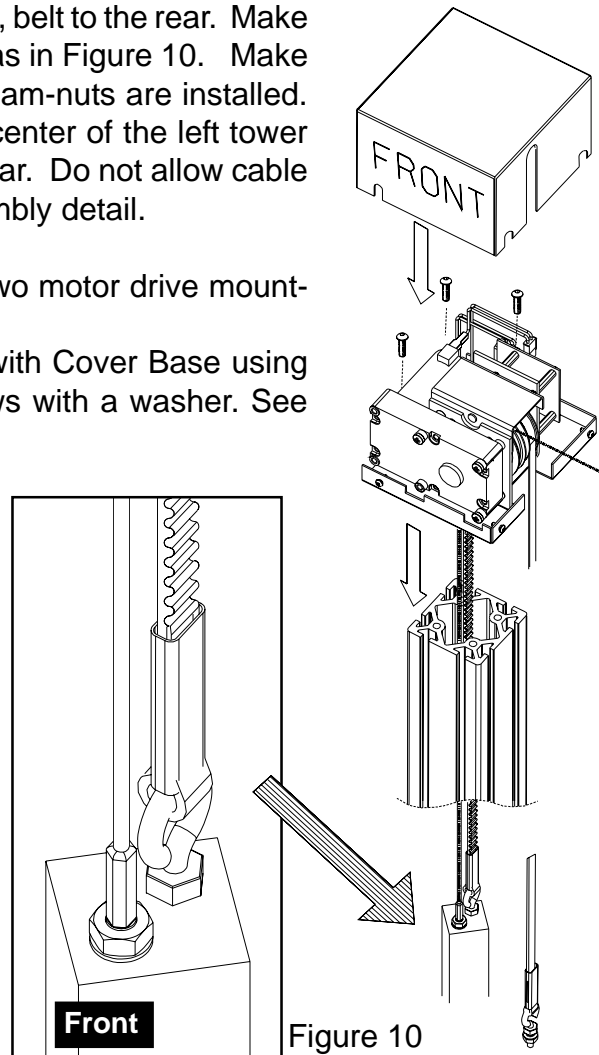

Figure 10
1. Assemble counter weight, cable to the front, belt to the rear. Make sure the ribbed part of the belt is oriented as in Figure 10. Make sure the cable connections are tight, and jam-nuts are installed. Slide the weight-cable assembly into the center of the left tower with the cable to the front and belt to the rear. Do not allow cable and belt to twist. See Figure 10 for assembly detail.
- A. Attach motor drive to top of left tower with Cover Base using (3) 5mm x 16mm allen head flange screws with a washer. See Figure 10 for assembly detail.
NOTE: Pay close attention to the cable/belt orientation. **DO NOT ALLOW CABLE and BELT TO TWIST AROUND EACH OTHER.** Refer to Figure 10 for detail.
7. Mount motor drive cover as shown in Fig. 10.